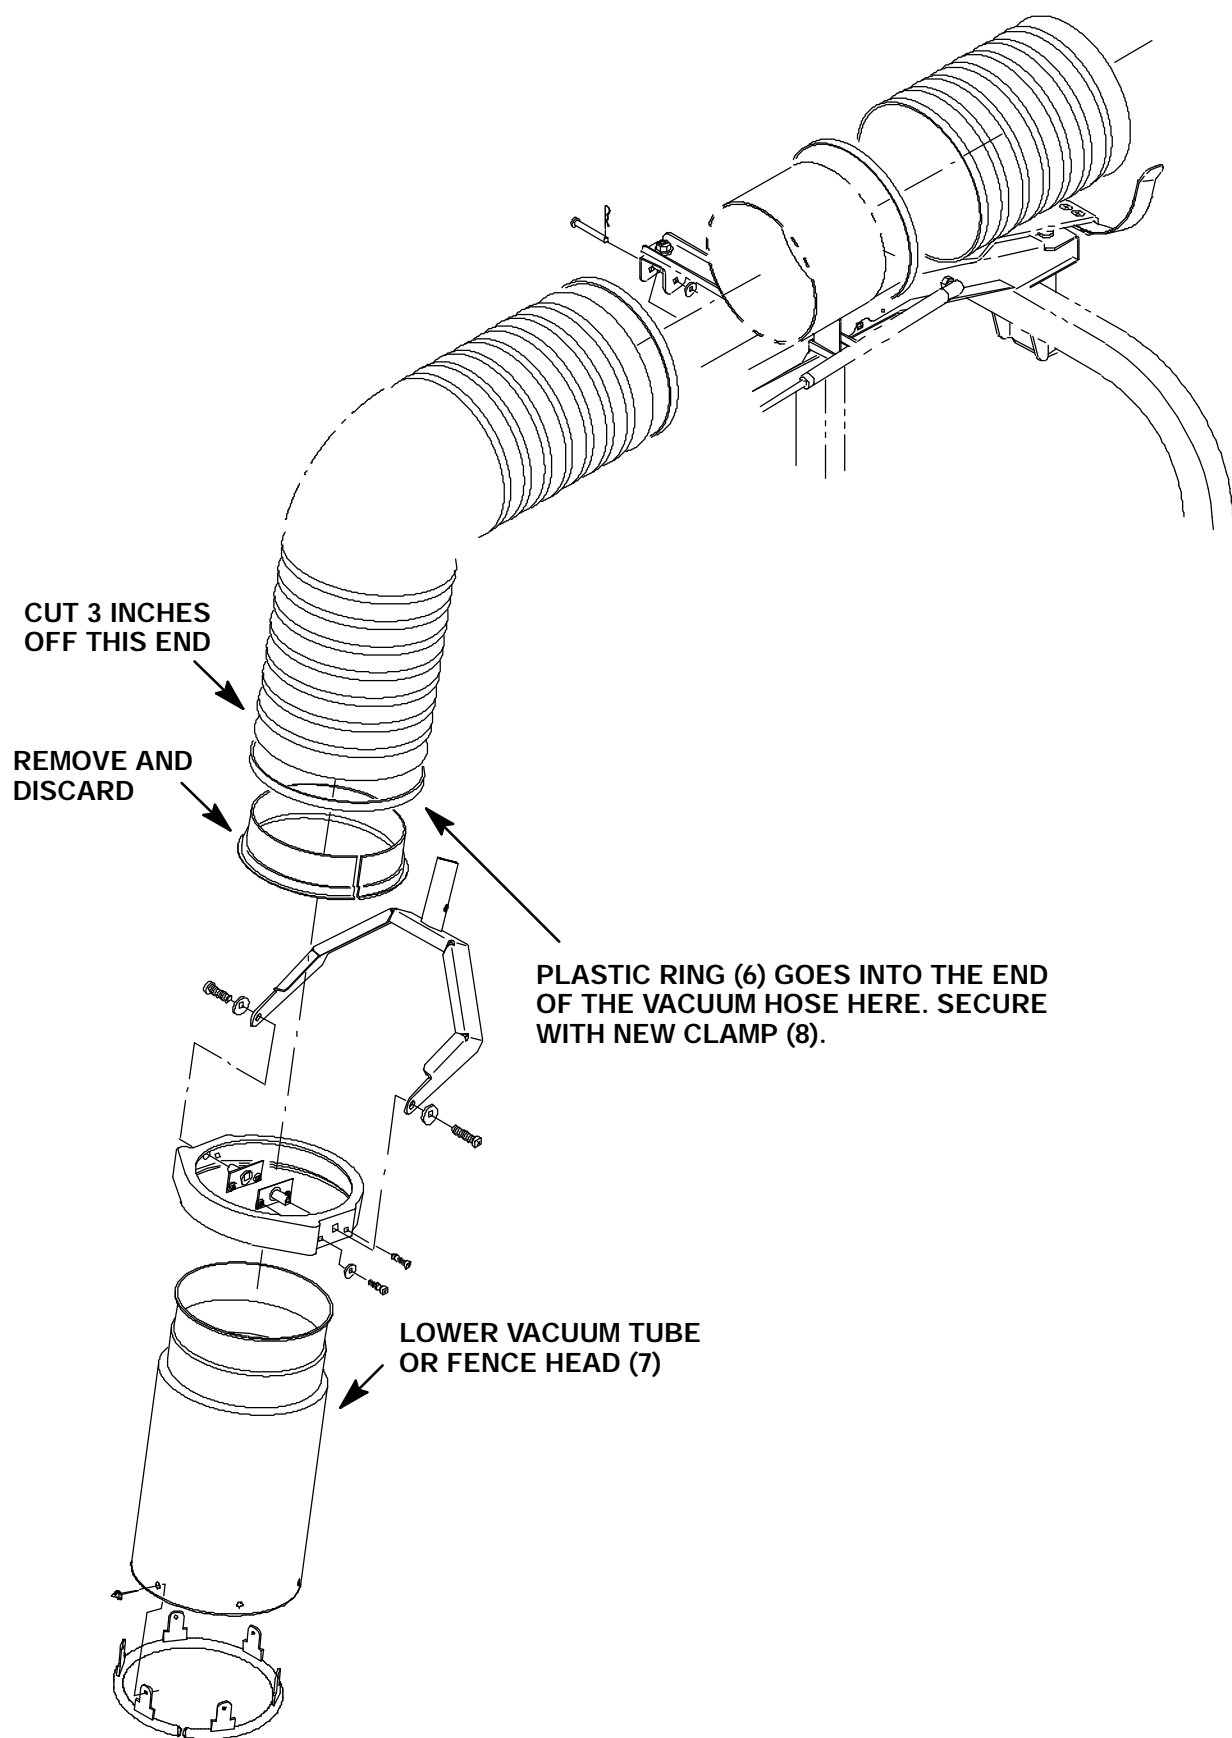

FIG. 7 - Vacuum Hose Assembly
4. Remove the worm drive clamp, lower vacuum tube, and existing connector ring from the lower end of the vacuum tube assembly. Discard the existing connector ring. (Refer to FIG. 7)
(Refer to FIG. 7)